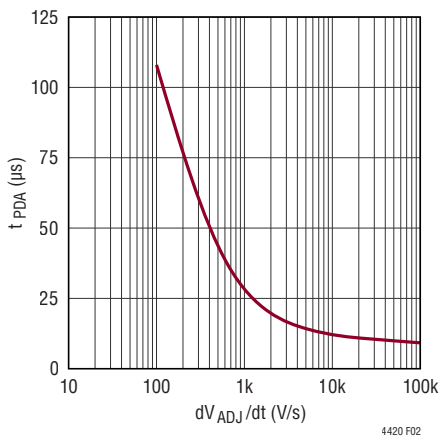

Figure 2. ADJ Comparator Propagation Delay as a Function of Slew Rate;  $t_{PDA}$  vs  $dV_{ADJ}/dt$
Refer to Figure 2 for a more accurate estimate of  $t_{PDA}$  vs  $dV_{OUT}/dt$ . If ADJ is filtered with capacitor  $C_{ADJ}$ , its discharge time via divider R1 – R3 increases  $t_{PDA}$ . This results in a higher output droop than estimated by equation (8).